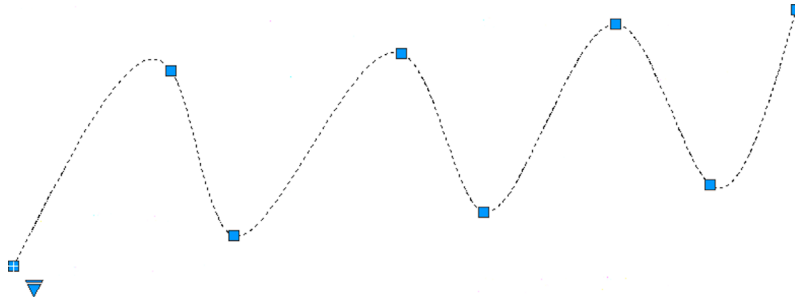

FIGURE 11.18 Spline command, grips enabled.
Step 3. Click on another point somewhere on the screen, in an up and down wave pattern, as seen in Fig. 11.18.
Step 4. Click on a few more points in a similar wave pattern. AutoCAD keeps saying the same thing as in Step 3. Continue clicking several more times (refer again to Fig. 11.18). When done, simply press Enter.
This is your basic “out-of-the-box” spline. Notice how, as you click on points, AutoCAD fits a smooth curve that best approximates the path. Each grip in Fig. 11.18 represents a click of the mouse, a control point. You can manipulate the positions of these grip points in the standard manner, with the spline following suit. This makes the spline a very flexible tool, adjustable to the exact demands of the designer. Try activating the grips and moving them around.